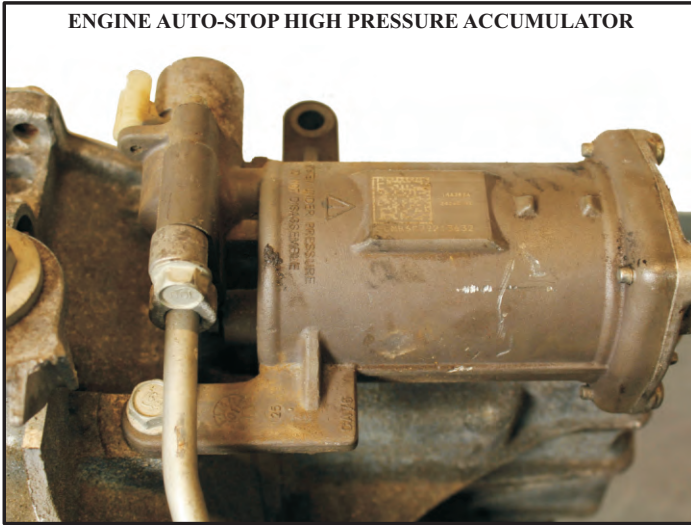

Figure 1
- (1) The addition of an externally mounted solenoid operated high pressure accumulator to provide clutch operating pressure for vehicles equipped with the Engine Auto-Stop feature (figure 1).